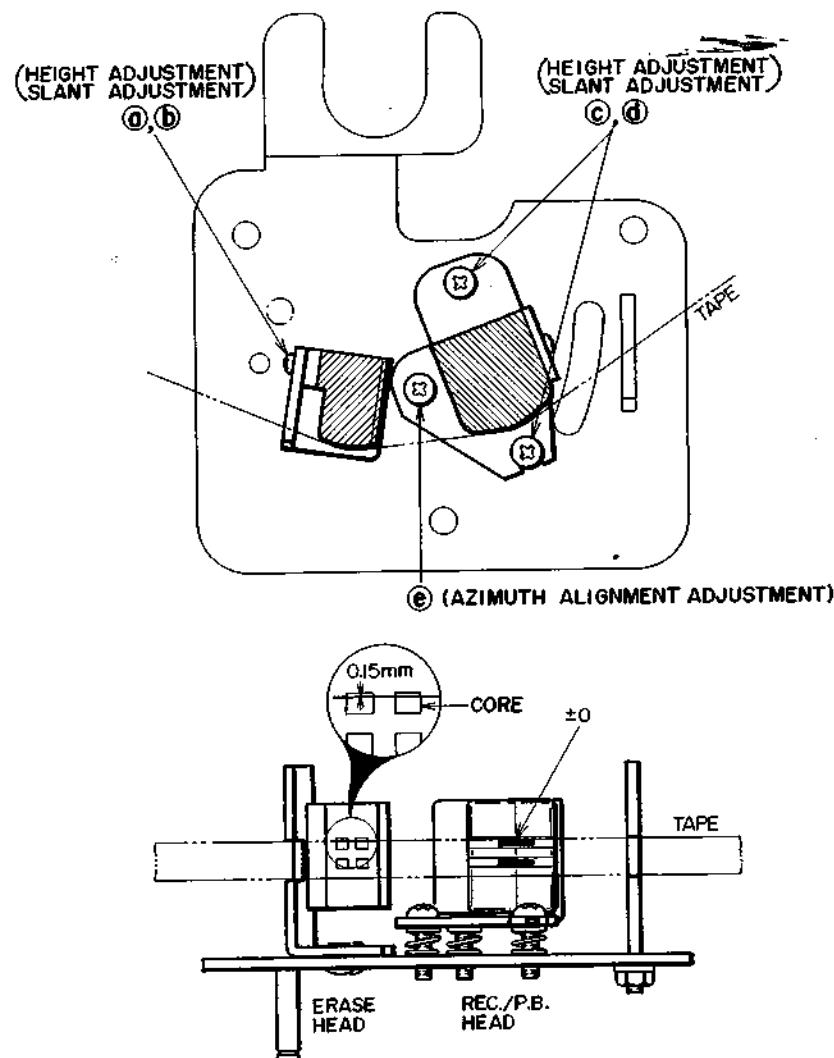

Fig. 17
2. HEAD SLANT ADJUSTMENT (See Fig. 17)
(See Figs. 17 and 18)**